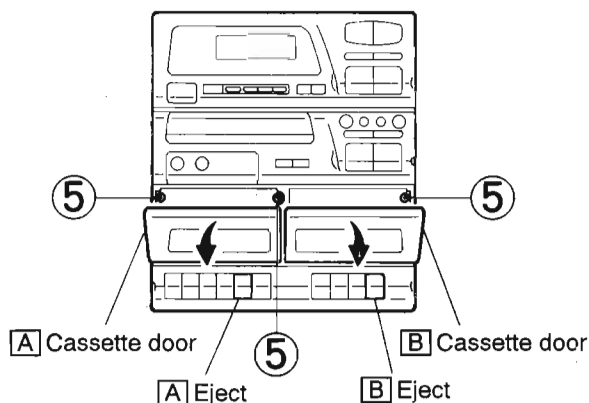

Fig. 5-5
1. Press the eject button of the cassette decks A and B, and open the cassette door (Refer to Fig. 5-5).
2. Remove the three screws (5) retaining the front cover ass'y as shown in Fig. 5-5.